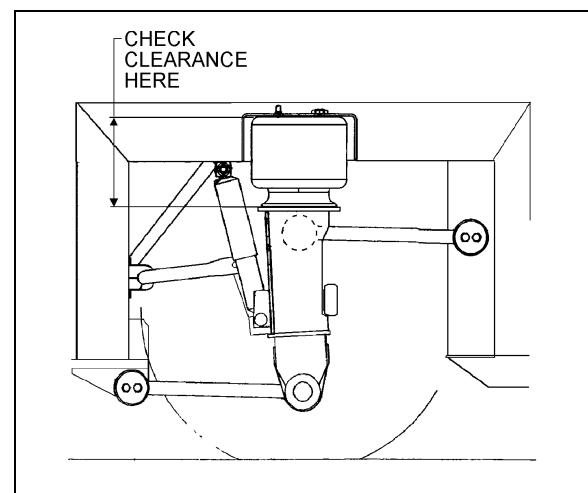

FIGURE 11: TYPICAL AIR SPRING CLEARANCE 16002
The appropriate vehicle body height is obtained by measuring the clearance of all the air springs installed on the front and drive axles. The clearance should be $12 \pm \frac{1}{4}$ " (305 ± 6 mm), $11 \frac{11}{16} \pm 0.25$ " (297 ± 6 mm) for ISS for the air springs installed on the front axle and $11\frac{1}{2} \pm \frac{1}{4}$ " (292 ± 6 mm) for those installed on the drive axle. Refer to figure 11 to identify the correct location where the measure has to be taken. At this point, it should not be necessary to make an adjustment under normal service conditions. However, if an adjustment is required, change the position of the overtravel lever in relation to the overtravel control body. The lever should be moved up to raise the height of vehicle, and down to lower it. Check that main air pressure is at normal operating pressure and raise the vehicle to the specified height.
1. With the vehicle at normal operating air pressure, check the air spring clearance as illustrated in figure 11. This clearance should be $12 \pm \frac{1}{4}$ " (305 ± 6 mm), $11 \frac{11}{16} \pm \frac{1}{4}$ " (297 ± 6 mm) for ISS for the front axle air springs and $11\frac{1}{2} \pm \frac{1}{4}$ " (292 ± 6 mm) for those on the drive axle.
Note: The measure should be taken from under the upper air spring support on subframe to top of the lower air spring support on axle (refer to fig. 11 for more details). If adjustment is required, begin with the drive axle.